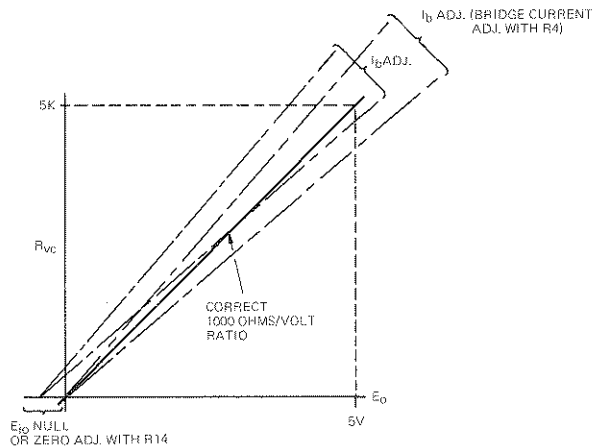

FIG. 3-6 ESTABLISHING PROGRAMMING LINEARITY
- e) Open S1 and check the 5 volt reading. Repeat "C" and "D", as necessary to achieve the desired accuracy. FIG. 3-6 below shows graphically how the programming ratio can be precision adjusted.